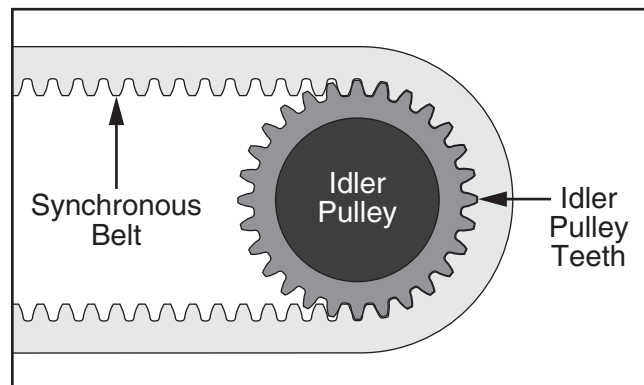

Figure 83. Synchronous belt meshing with idler pulley teeth.
6. Install replacement synchronous belt through left and right idler pulleys and verify belt meshes with pulley teeth (see **Figure 83**).
7. Install replacement synchronous belt through front and rear idler pulleys and verify belt meshes with pulley teeth (see **Figure 83** on **Page 62**).
8. Insert rear belt mounting bracket between rear belt loop and install bracket using (2) cap screws removed in **Step 4**.
9. Insert front belt mounting bracket between front belt loop and install bracket using (2) cap screws removed in **Step 5**.